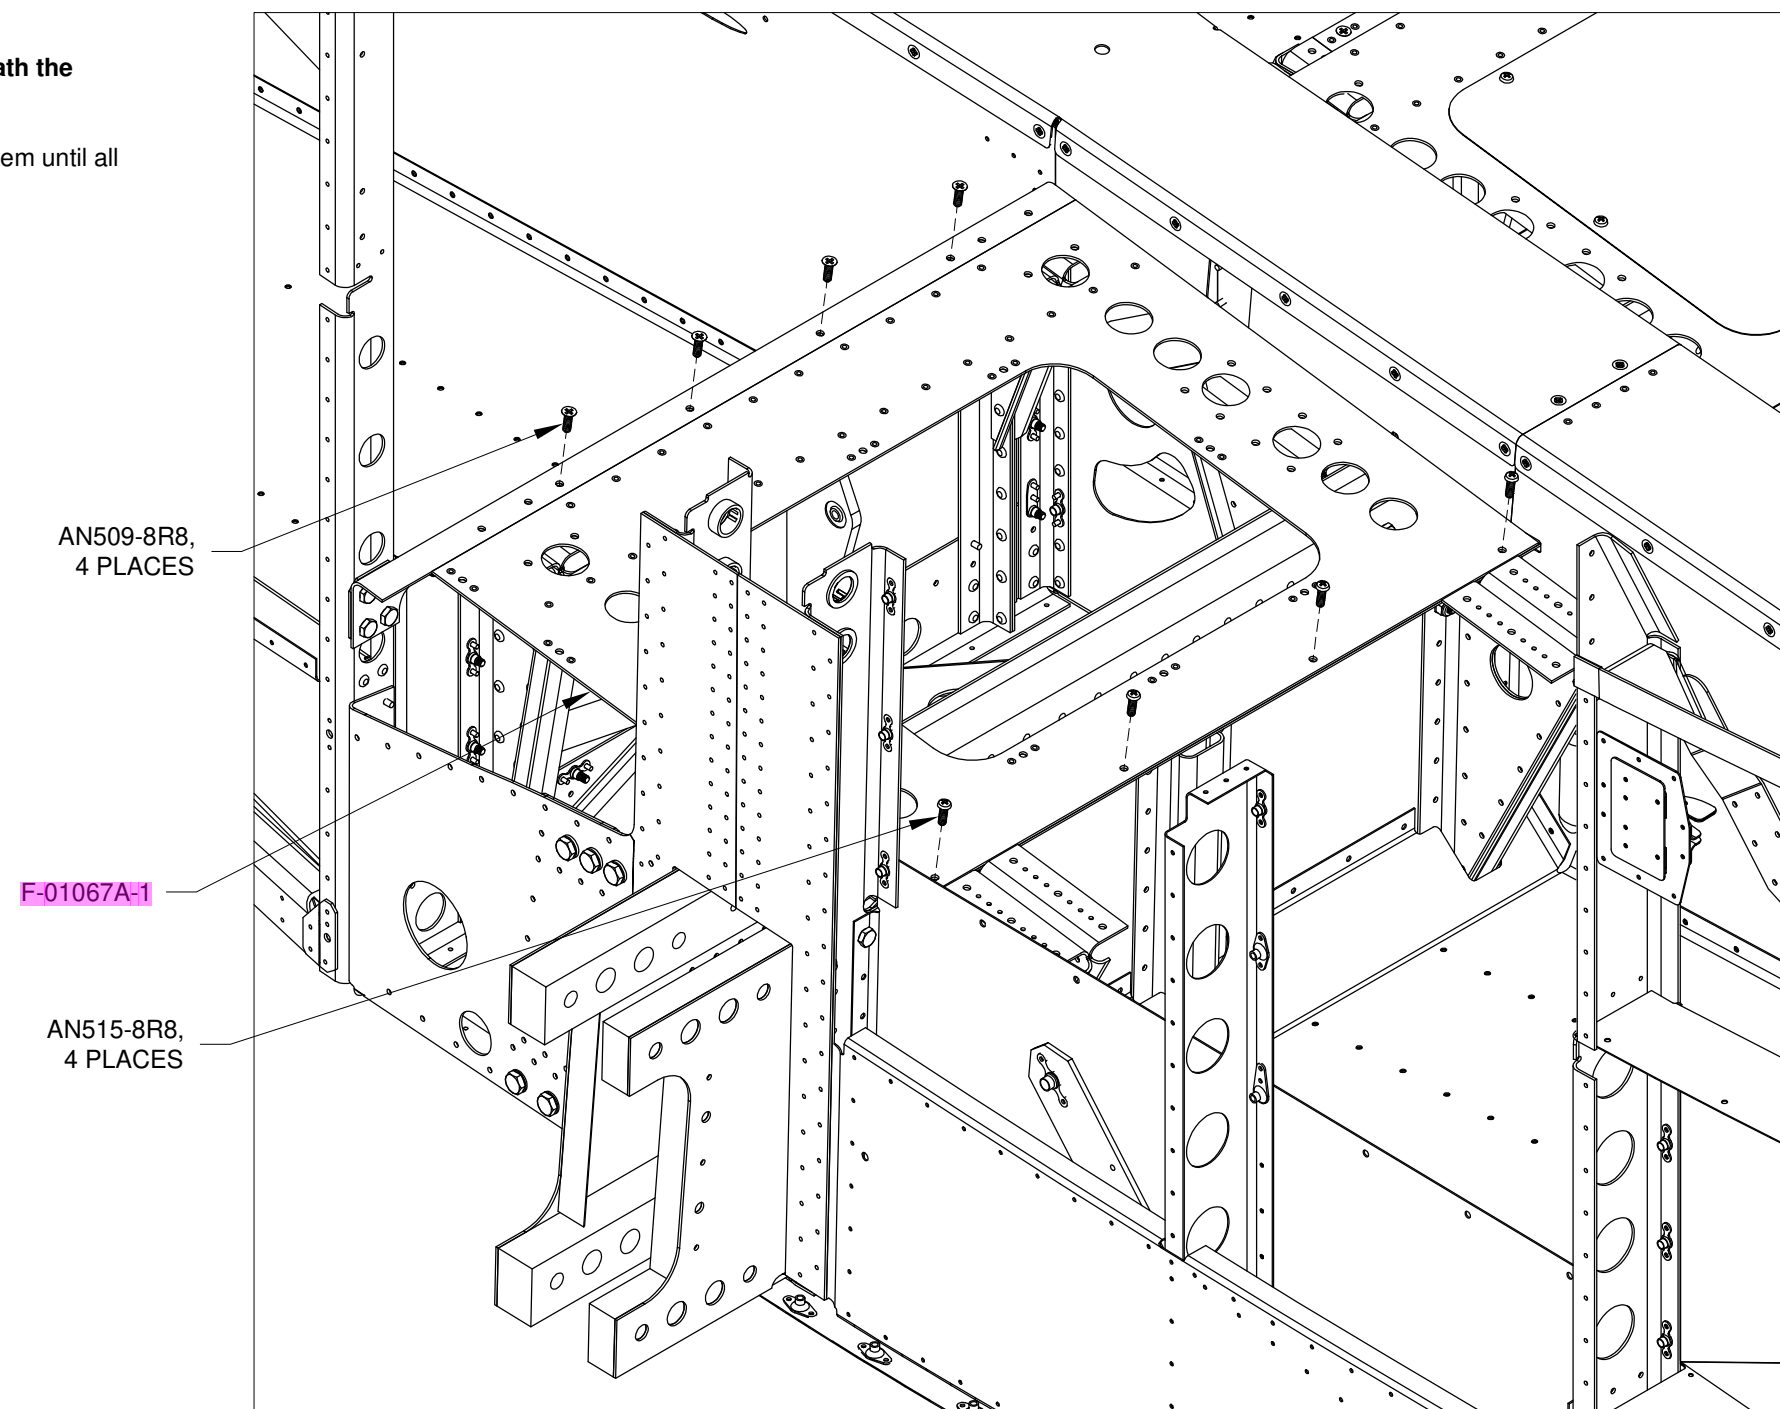

FIGURE 1: INSTALLING THE SEAT FLOORS
Step 1: Figure 1 shows the final install of the **F-01067A-1** Seat Floors, but wait to install them until all systems installations and wiring runs have been completed.